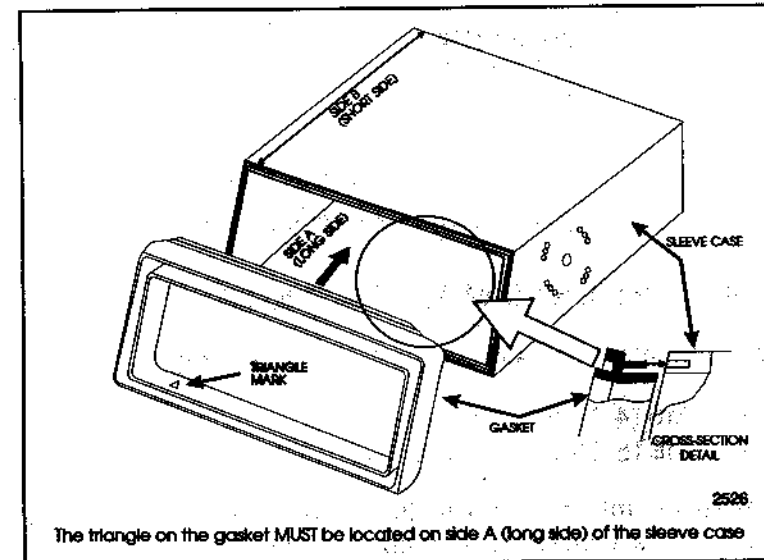

Figure 2. Placement of Moisture-Sealing Gasket
- c. If the rectangular gasket between the sleeve case and the transceiver is removed or becomes detached from the sleeve case, refer to Figure 2 for correct installation. The key to successful orienta-